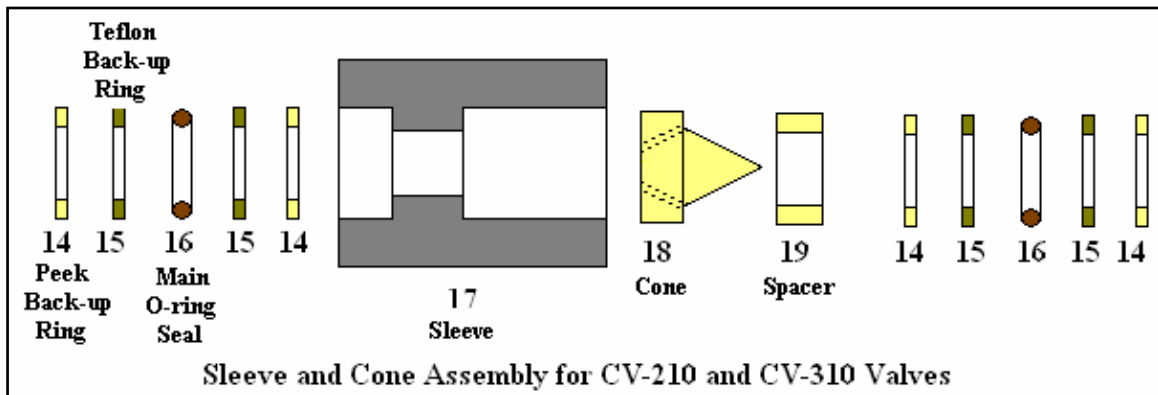
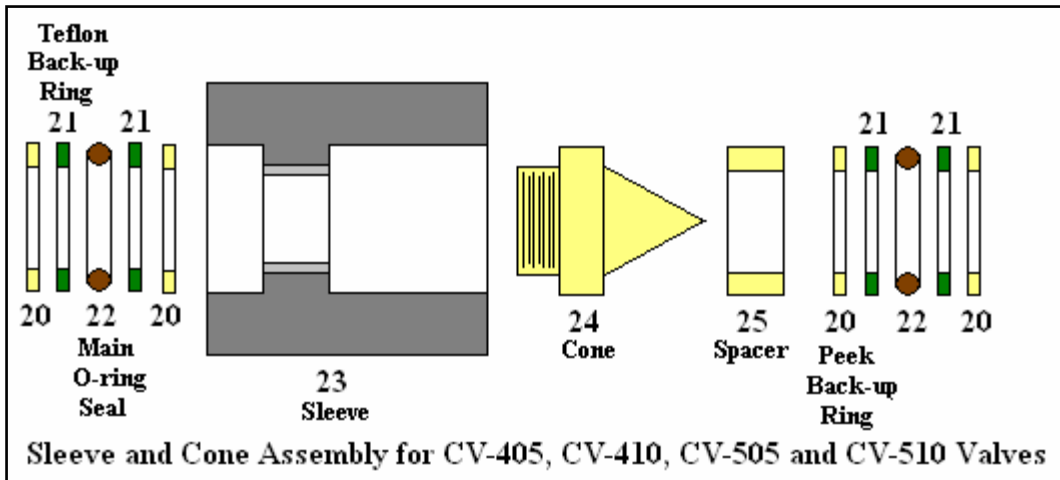
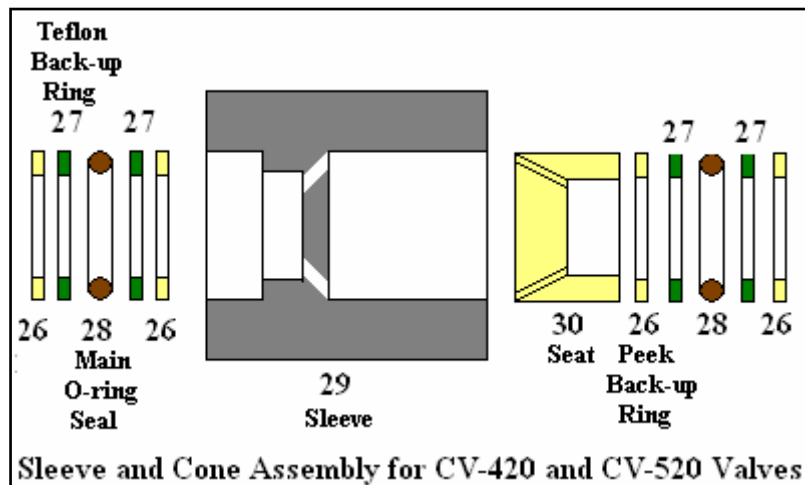

Figure 4-3
Figure 4-4
Figure 4-5
Refer to Figures 4-3, 4-4, or 4-5 to Disassemble the Sleeve Assembly for your CV Valve.
**Note:** The sleeve assembly is slightly different for each CV-Valve Model. The figures below show details for the CV-210 / CV-310 Valves, (Figure 4-3), the CV-405 / CV-410 / CV-505 and CV-510 Valves, (Figure 4-4) and the CV-420 / CV-520 Valves, (Figure 4-5).